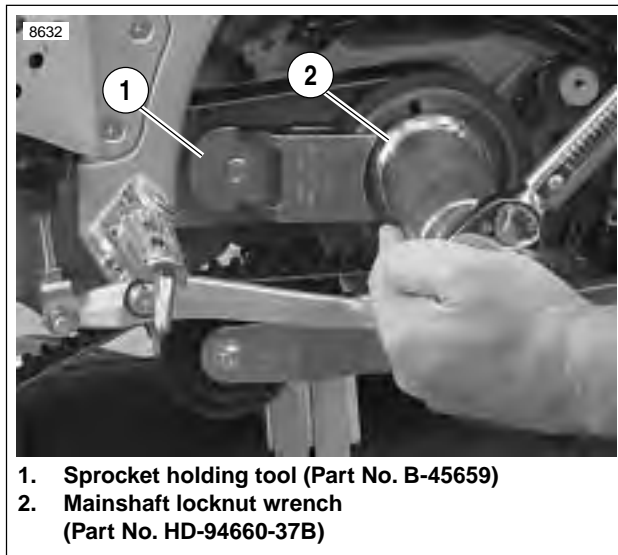

Figure 6-90. Transmission Sprocket Tightening
5. See Figure 6-90. Install SPROCKET HOLDING TOOL (Part No. B-45659) as shown.